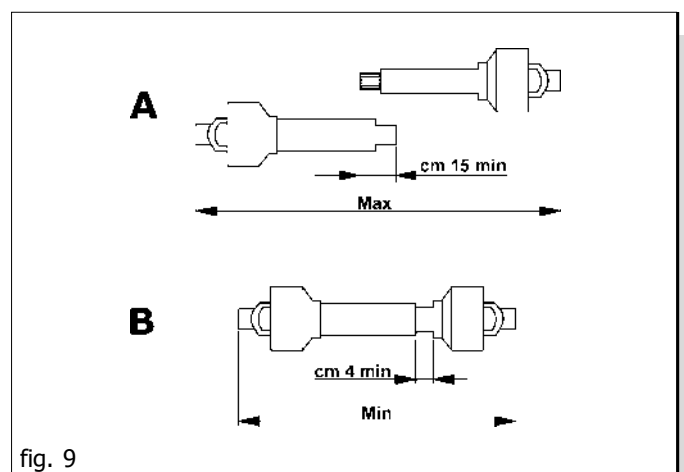

fig. 9
- When the Cardan shaft is withdrawn to the end of its stroke, the two pipes should overlap by at least 15 cm (A Fig. 9). When it is inserted all the way, the minimum admissible play is 4 cm (B Fig. 9).